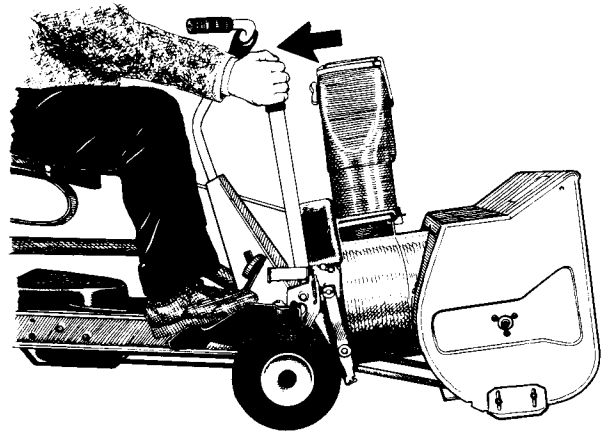

FIGURE 2 - PULL REARWARD TO TRANSPORT
5. **RIDER MOTION:** To begin forward or rearward motion, pull back on the **Thrower lift handle** to latch in transport position (Figure 2), depress the **CLUTCH/BRAKE pedal** and move the **SHIFT LEVER** to #1 forward speed or into **REV** to back up — hold lever in **REV** while backing up and depress **CLUTCH/BRAKE pedal** to stop reverse motion. The **CLUTCH/BRAKE pedal** does not have to be depressed to shift to higher speeds. Push the **CLUTCH/BRAKE pedal** all the way down to stop forward or rearward motion.